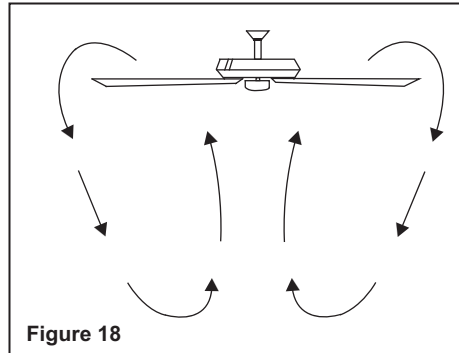

Figure 18
**Cool weather - (Reverse)** An upward airflow moves warm air off the ceiling area as shown in Fig. 18. This allows you to set your heating unit on a cooler setting without affecting your comfort.